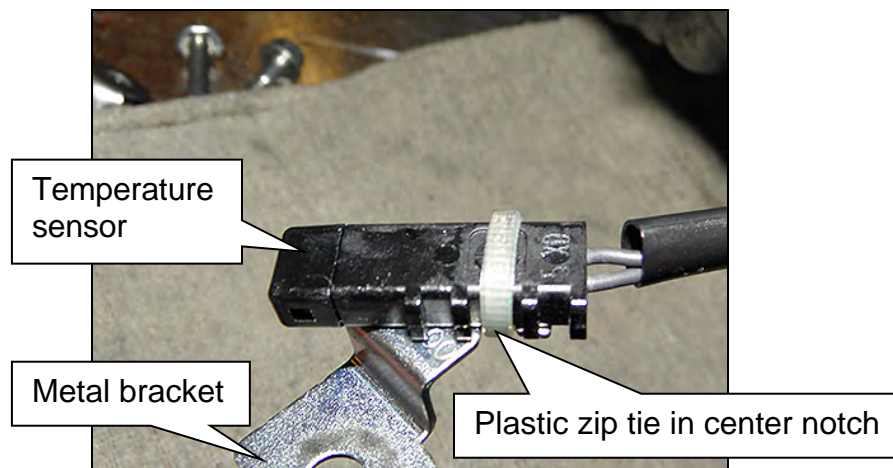

Figure 30
- a. Cut the plastic zip tie with an appropriate tool to remove the temperature sensor bracket from the terminal harness assembly (Figure 30).